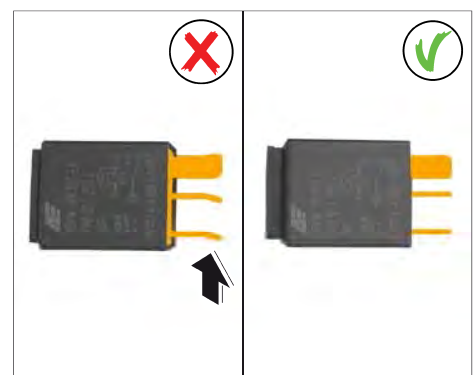

Figure 3
**If one of the flat plugs on the relay is bent ⇒ *Figure 3 -arrow-*, the relay **must be replaced**.**